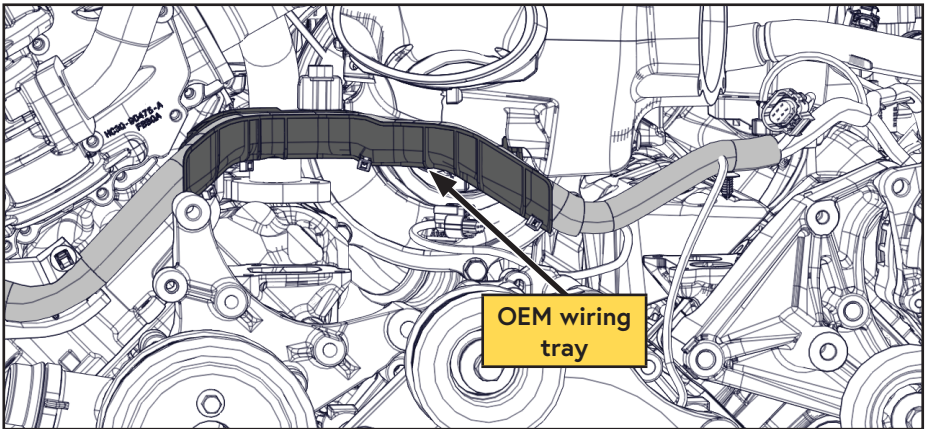

Figure 10 — OEM wiring tray
- Cut the cable ties securing the OEM wiring bundle to the wiring tray. Use a 10 mm socket to remove and discard the wiring tray (Figure 10).